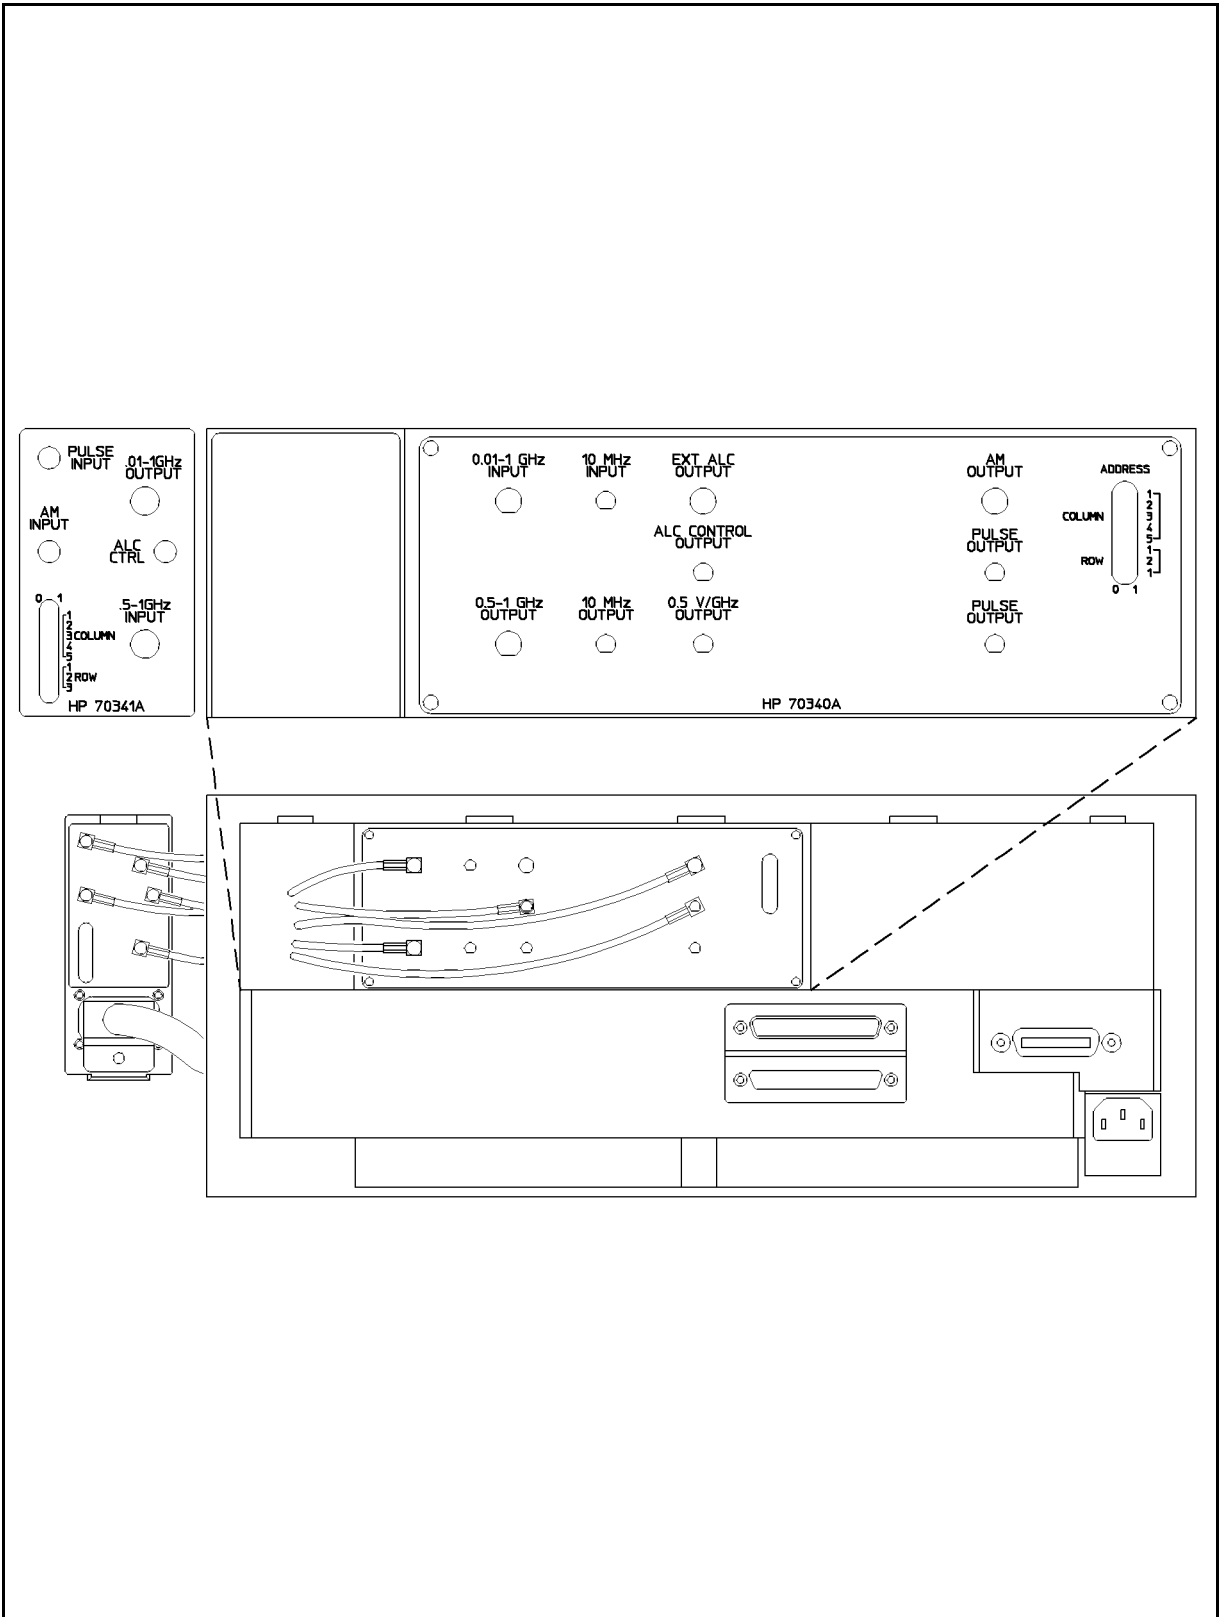

Figure 2-5. Connecting HP 70340A to HP 70341A through the Extender Module
5. Connect cables of suitable length (3 cables SMB(m) to SMB(m), 2 cables SMA(m) to SMA(m)) from the HP 70340A through the extender module to the HP 73041A as shown in Figure 2-5.